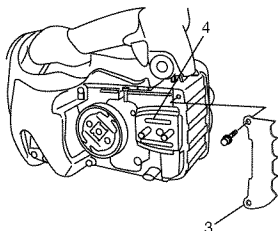

Fig. 2
\* In case of installing the spiked bumper (3), remove the guide plate A (4) first and install the spiked bumper (3) (if so equipped) to the unit with two screws, and then install the guide plate A (4) in place. (Fig.2)